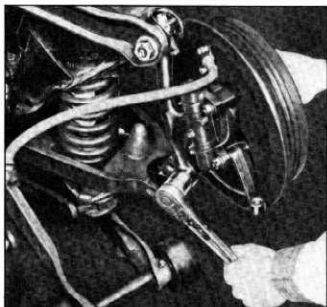

Fig. 21—Removing Lower Pivot Bolt Bushing
- Remove lower pivot bolt bushing from the knuckle support (fig. 21).